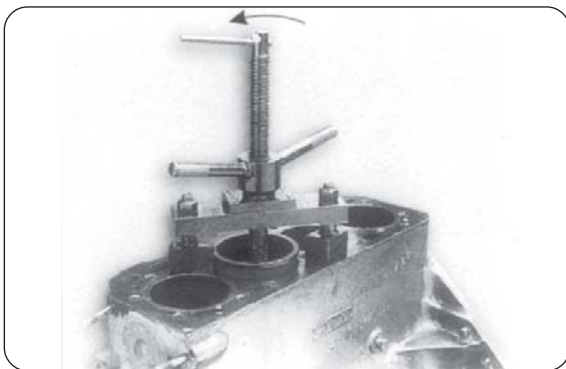

Fig. 14
- Insert the sleeve puller from the top of the crankcase (fig.14).